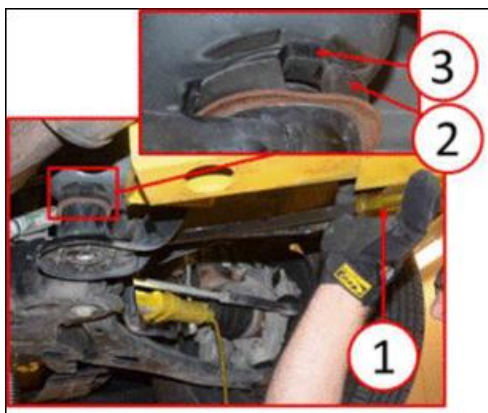

Fig. 3 Snubber Installation
**Step 3.** With the rear mounting bolt for the lower control arm still removed, position a pry bar between the crossmember and the body to lower the upper crossmember mount for snubber installation (Fig. 3).